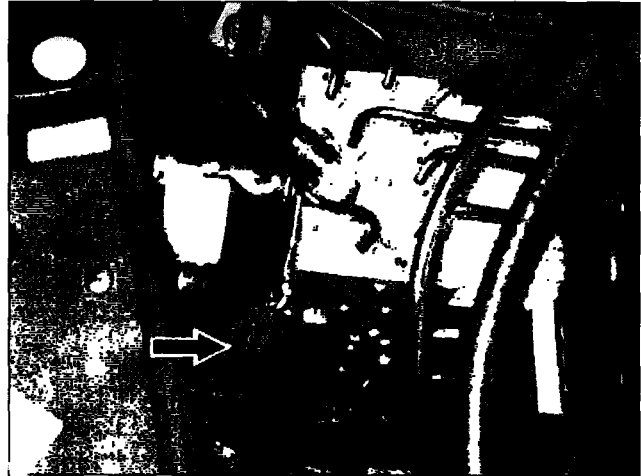

Figure 1
2. Check if the bracket (arrow, Figure 1) is installed on the SBC hydraulic unit: